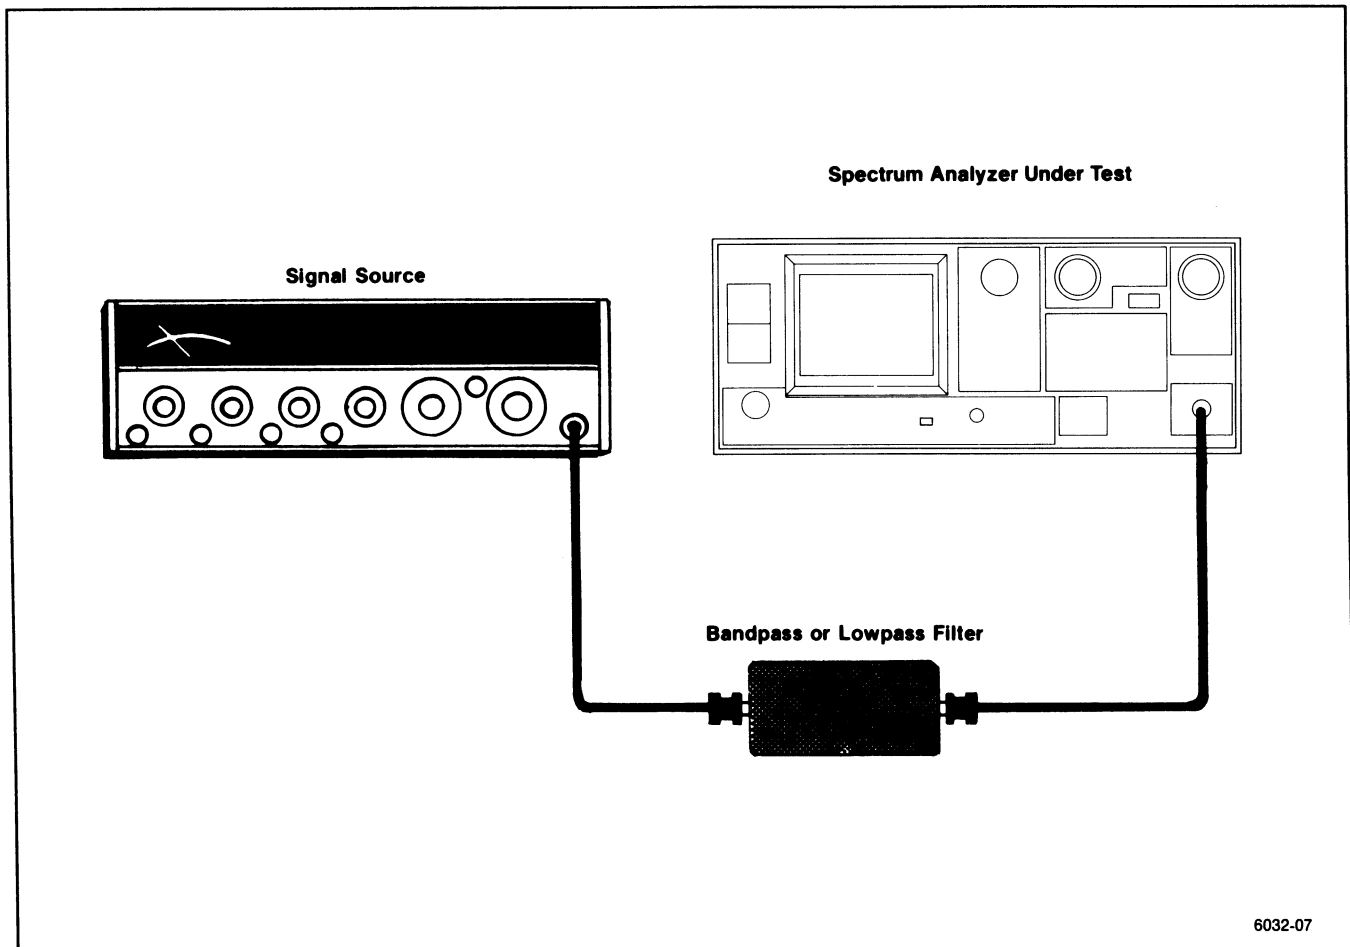

Figure 4-17. Test equipment setup for checking harmonic distortion.
a. Connect the test equipment as shown in Figure 4-17, and set the Spectrum Analyzer controls as follows:
In Figure 4-17, the filter shown must have a minimum of 40 dB rolloff to attenuate multiples of the generator frequency, and the frequency of the signal generator depends on the frequency characteristics of the filter.